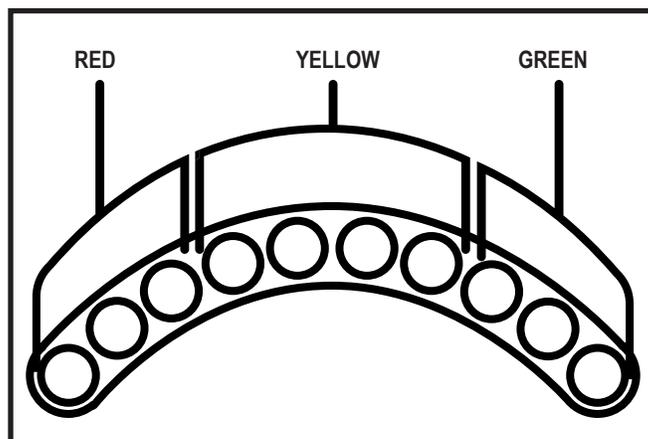

Figure 1. Controller Light Segments
The battery condition meter consists of ten (10) LEDs arranged in an arc over the on/off and horn buttons. See figure 1. The battery condition meter indicates the status of the electrical system using LED codes. For example, as the battery voltage drops, the number of LEDs reduces from right to left. When the battery capacity drops to 10% or below, the left red LED will flash.